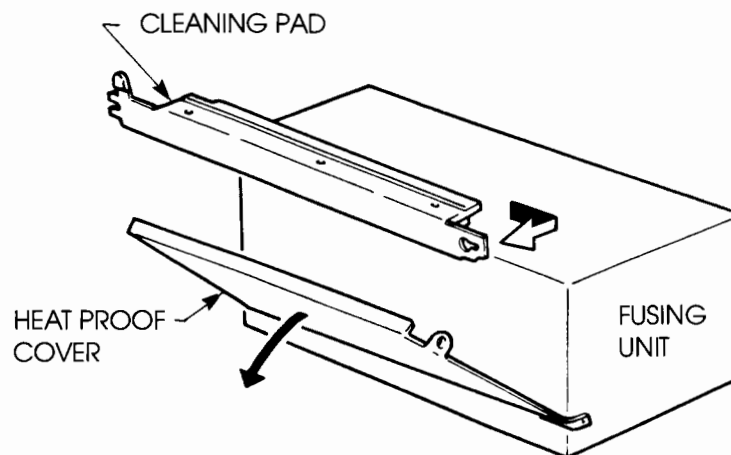

Figure 4-13. Replacing Fuser Cleaning Pad Assembly
- e. Grasp the orange tab on one end of the fuser cleaning pad assembly, pull it in the direction of the arrow, and then replace it (figure 4-13).